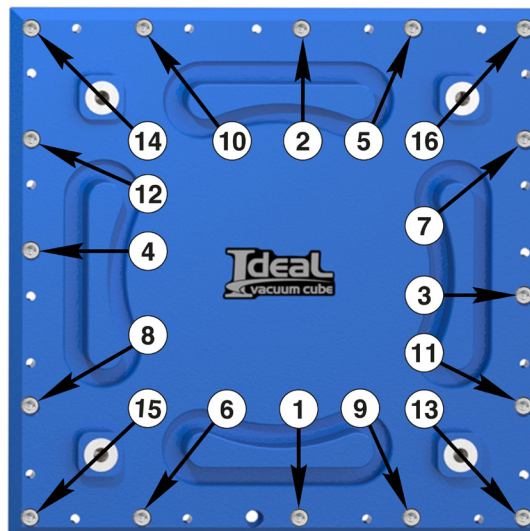

Figure 10 - 12x12 bolt tightening pattern
- Figure 10 - 12x12 bolt tightening pattern9